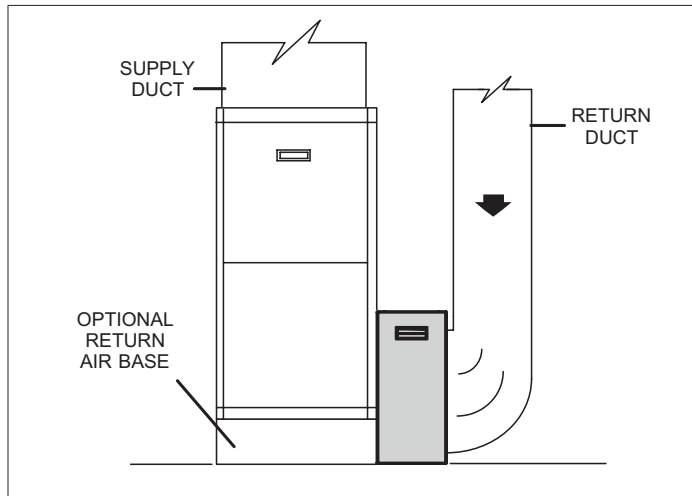
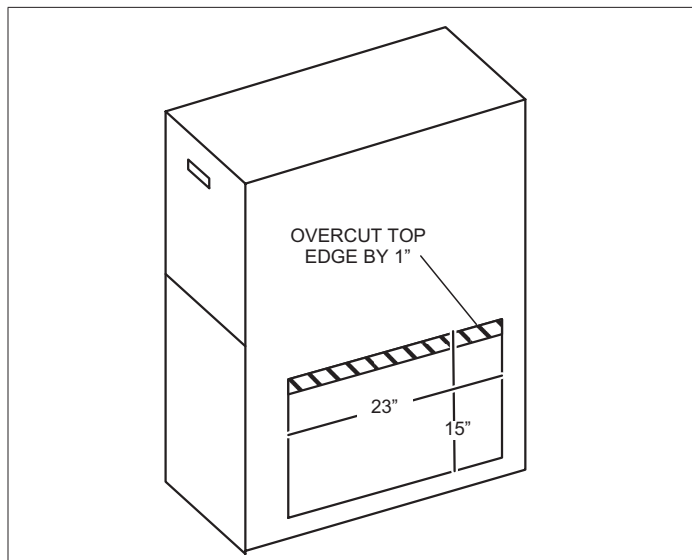

Figure 9. Up-flow Furnace (5 ton, Option 1)
Figure 10. Up-flow Furnace (5 ton, Option 2)
2. Align the cabinet opening with the opening on the furnace. (For 5 ton application, use option 1 or 2 [see Figure 9 on page 5 and Figure 10 on page 5]).